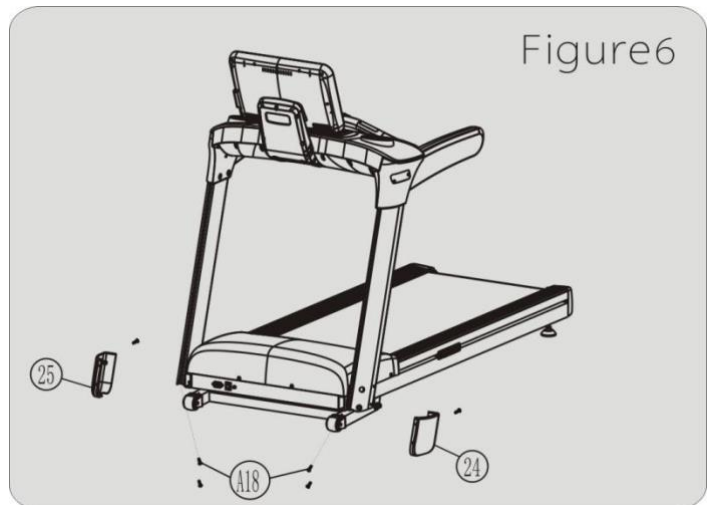

Figure6
6.3 Install right cover (25) to the right side of motor upper cover (23) by three pcs of cross pan head tapping screw ST4.2\*12 (A18), then tighten. ( see Figure 6)